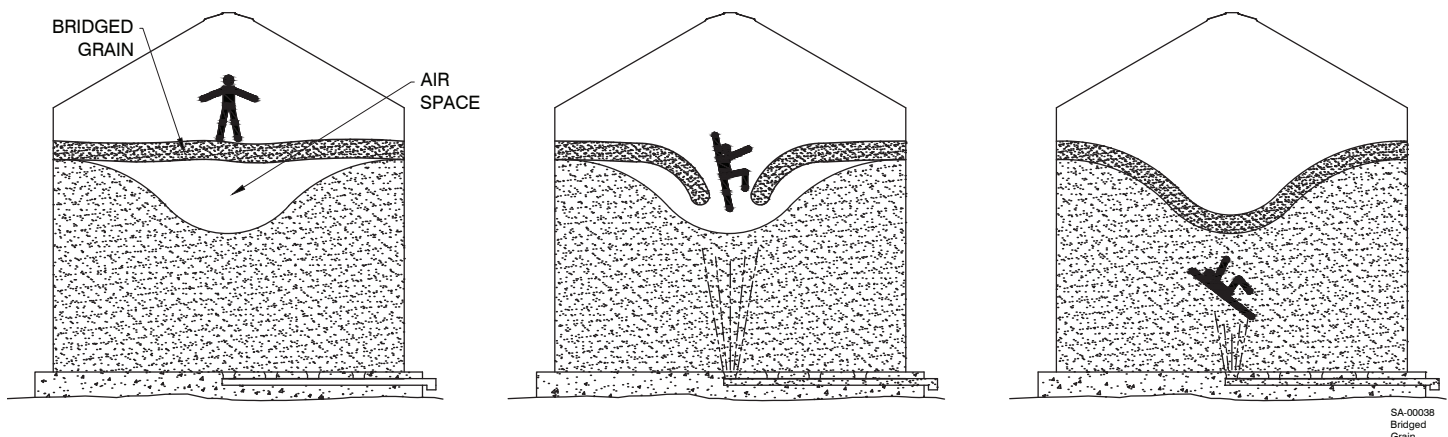

Figure 3. Dangers of bridged grain.
2.7.2. Bridging grain may create air spaces in a partially unloaded bin, see Figure 3. As grain is removed from a bin, a cavity develops under the crusted surface. This situation presents several dangers. First, the person may break through the surface and be trapped instantly in the flowing grain. Another danger is that a large void may be created under the bridge by previous unloading so that a person who breaks through the crust may be buried under grain and suffocate, even without an auger running. The third